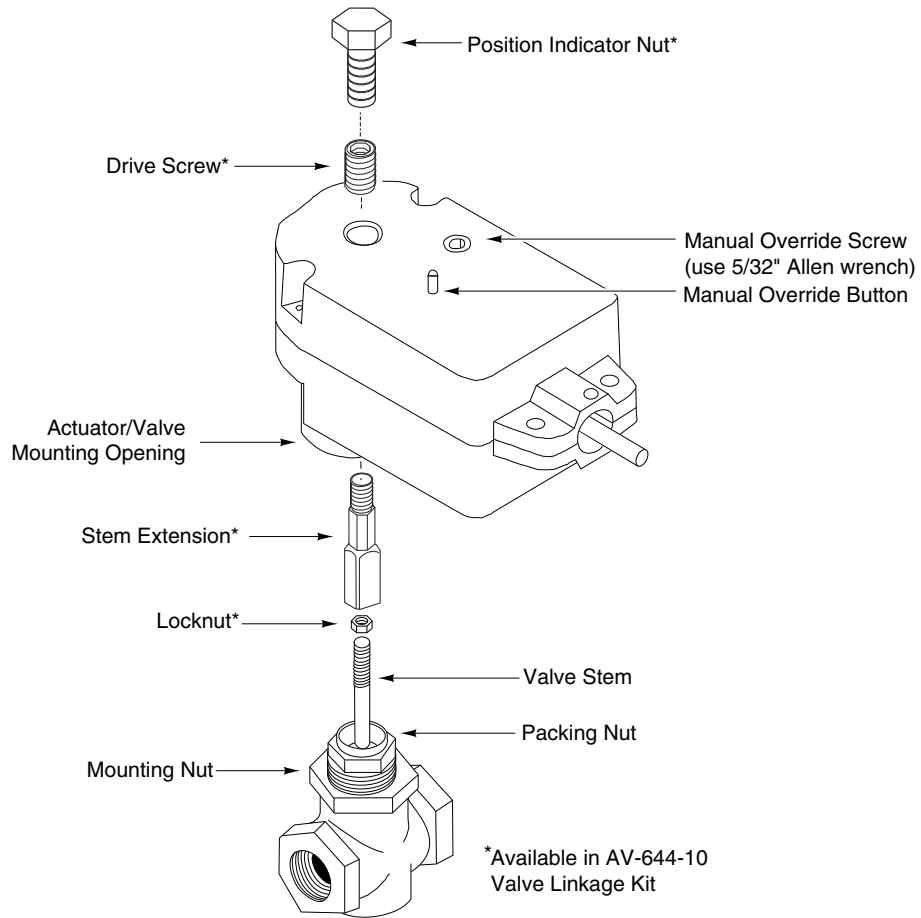

Figure-3 MF-221xx Series Actuator Valve Assembly with AV-644 Linkage.
9. Replace all the old parts with new parts from the AV-644-10 linkage kit in reverse order, starting with the white plastic drive screw. Refer to Figure-3.